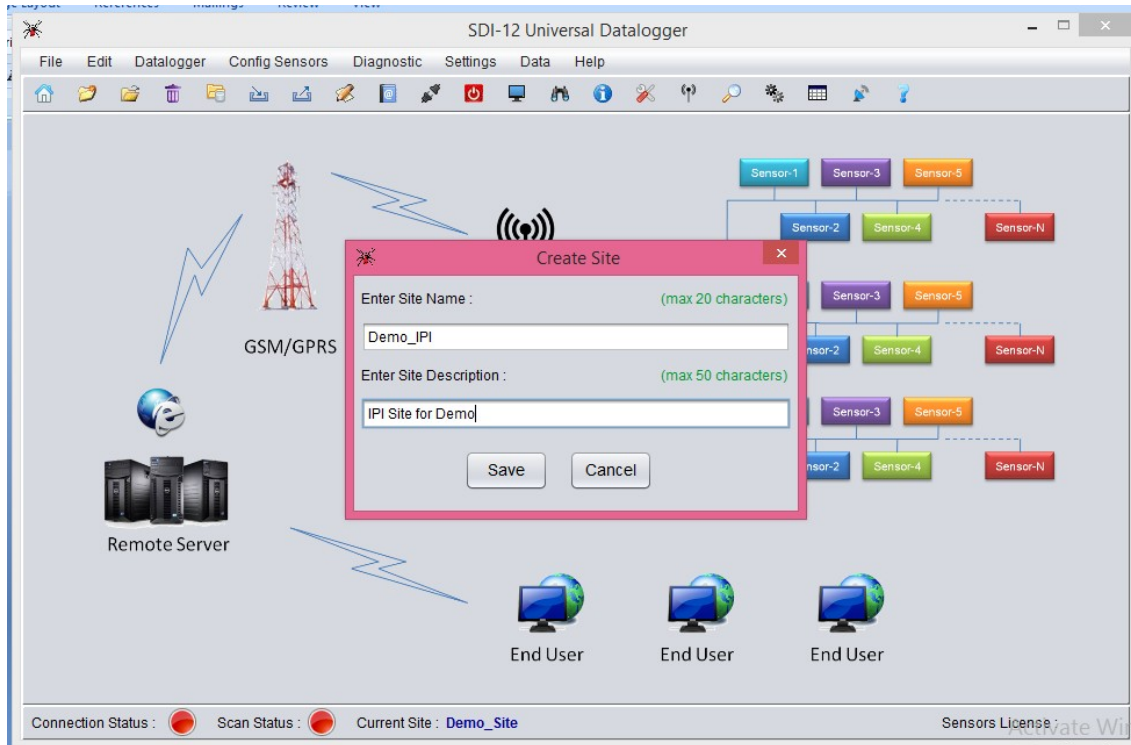

Figure 18 Create site window of EDSL-30UNI Configuration Manger Software
- 2 After clicking “Create Site”, a “Create Site” window will appear as shown in figure 18 below. Enter “Site Name” and “Site Description”. Then click “Save” button.